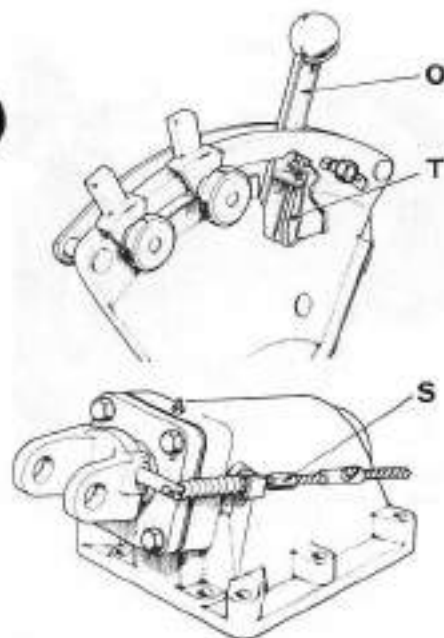

Fig. 183—Adjusting points for top link sensing unit flexible cable; refer to text for procedure.
244. ADJUST SENSING UNIT CABLE. On model 770 prior to serial No. 583398 (with single acting sensing unit), mount implement on 3-point hitch. With engine stopped, loosen lock nut and turn cable adjuster (S—Fig. 183) fully inward to be sure cable is slack. Move control lever (O) rearward until it contacts quadrant spring (T), start engine and allow linkage to raise to full height and reach hold position, then stop engine. With control lever still touching quadrant spring, screw adjuster (S) outward until linkage starts to creep downward, then turn adjuster back inward $1\frac{1}{2}$ turns. Hold adjuster in this position and tighten locknut. If insufficient control lever movement is obtained when shallow plowing, increase setting from creep down position to $2\frac{1}{2}$ turns.